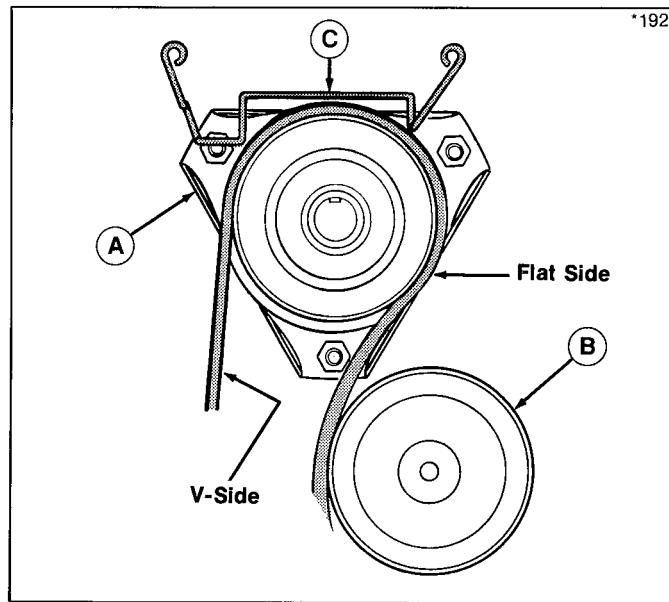

Figure 27. Belt Installation
9. Remove mower belt around bottom pulley (V-side) and around idler pulley (flat-side). Hardware securing belt stop may need to be loosened to remove belt. Belt diagram is shown in figure 27.
2. Route belt underneath rider **over the drive axle**. Install mower belt around bottom pulley (V-side) of electric clutch. Refer to figure 27.
- e. Remove belt from electric clutch pulley. Refer to figure 27. Hardware securing belt stops may need to be loosened to remove belt.